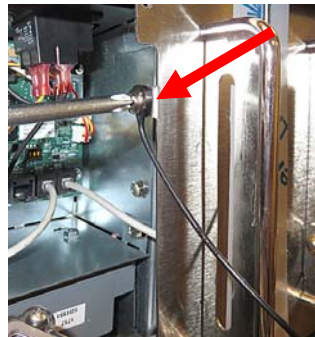

Figure 10
10. Disconnect the lanyard tether (see Figure 10).